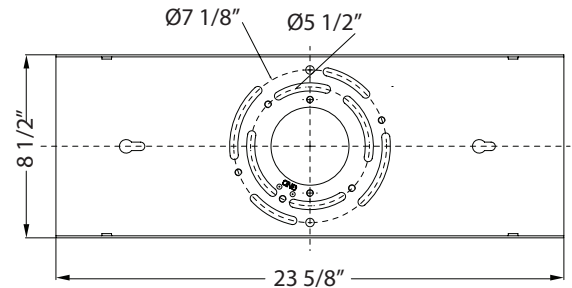

Fig. 2 Wiring
### CONNECTING THE WIRES (Fig. 2)
6. Connect the driver's input wires to junction box wires as shown in Fig. 2, making sure that all wire connectors (A) are secured. If your outlet box has a green or bare copper ground wire, connect the fixture's ground wire to it. Otherwise, connect the fixture's ground wire directly to the back plate using the GND screw provided. After wires are connected, tuck them carefully inside the junction box.
7. Place the fixture over the mounting back plate and secure it with mounting screws (B) and the rubber gasket (C).